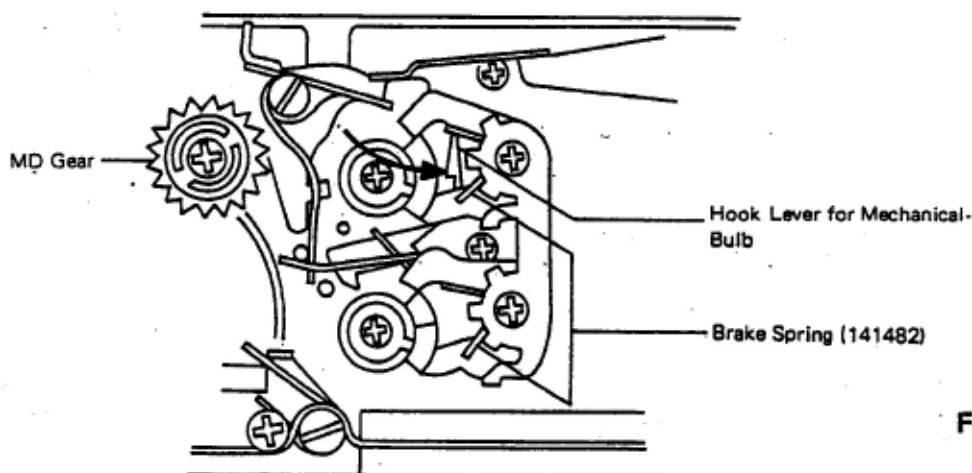

Fig. 14
c) Push the Hook Lever for Mechanical-bulb with a needle or similar in the direction of the arrow for coupling with the inside shutter mechanism lever correctly. The Mount Base ass'y will move up when pushing the Hook Lever for Mechanical-bulb, and come down as the mechanism levers are engaged correctly. (fig. 14)